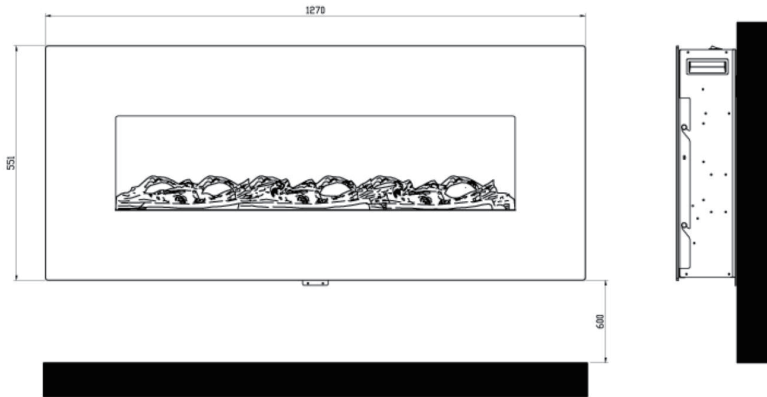
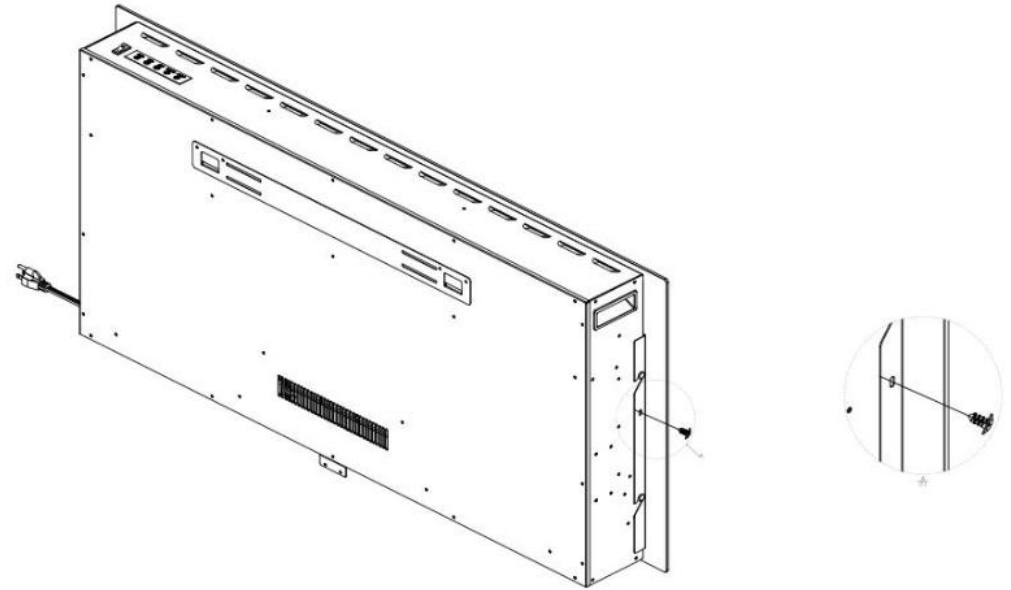

Fig.1
Fig.5
Installation (see Fig1 ~ Fig 5)
- Fix the tempered glass with 2pcs of 4*8mm screws provided.(Fig.5)